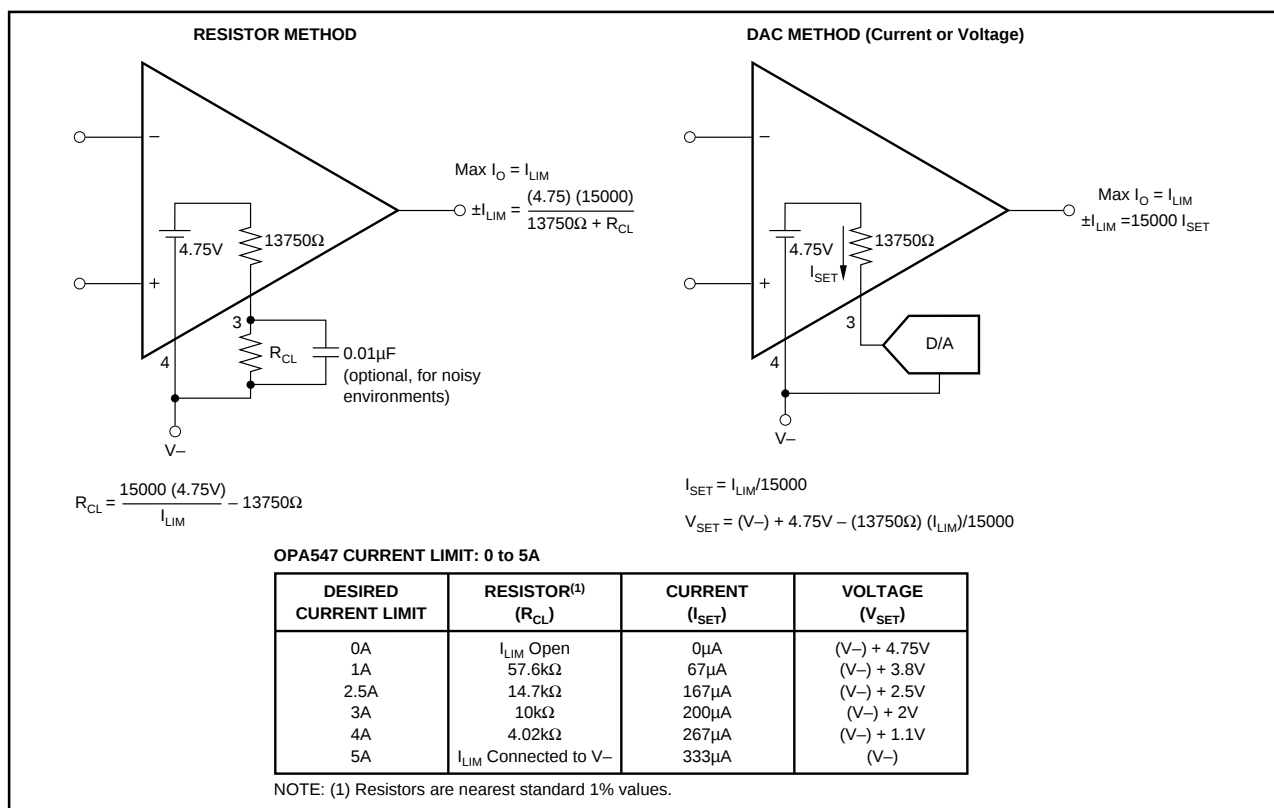

FIGURE 3. Adjustable Current Limit.
Figure 3 shows a simplified schematic of the internal circuitry used to set the current limit. Leaving the I_LIM pin open programs the output current to zero, while connecting I_LIM directly to V- programs the maximum output current limit, typically 5A.
NOTES: (1) Works well for $G < 10$. Input offset causes output current to flow between amplifiers with $G > 10$. Gains (resistor ratios) of the two amplifiers should be carefully matched to ensure equal current sharing. (2) As configured (I_{LIM} connected to V_-) output current limit is set to 10A (peak). Each amplifier is limited to 5A (peak). Other current limit values may be obtained, see Figure 3, "Adjustable Current Limit".